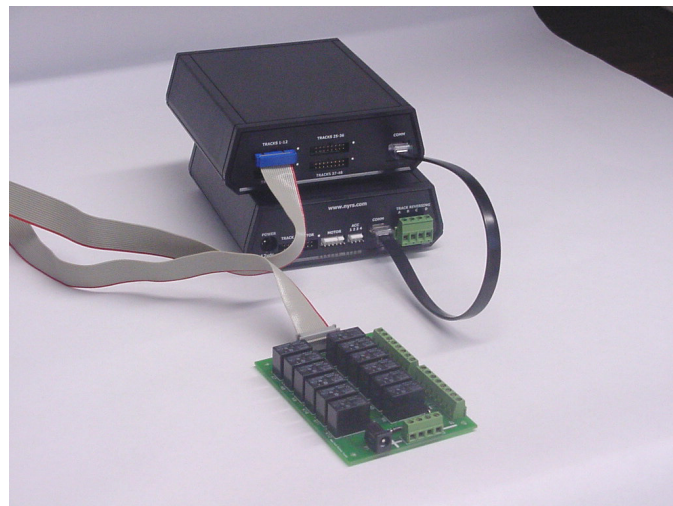
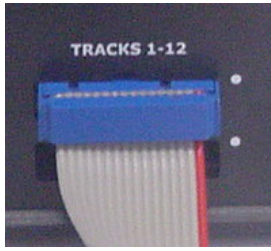
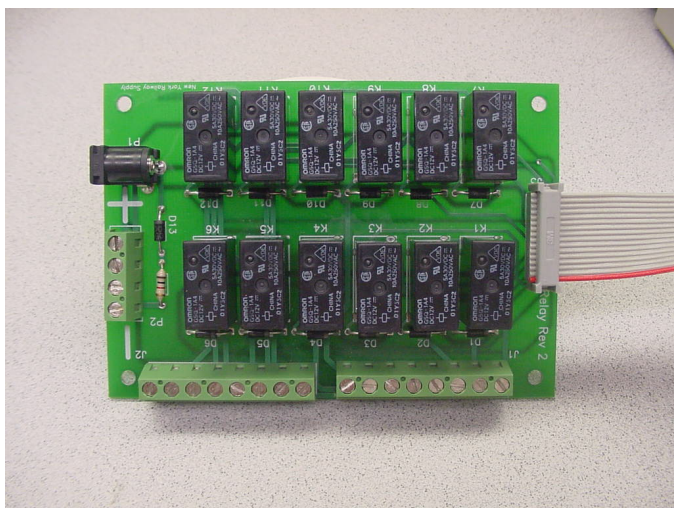

Figure 1
Figure 2
Figure 8
3. **CONNECT APR TO RELAY BOARD** – See figure 1. Carefully connect the ribbon cable from the appropriate output on the rear of the APR. Pay close attention to cable polarity. Damage may result if plugged in backwards See Figure 2 for correct orientation of cable. Make sure cable is coming from bottom of connector as shown. Figure 8 shows the correct orientation for the relay board connector.